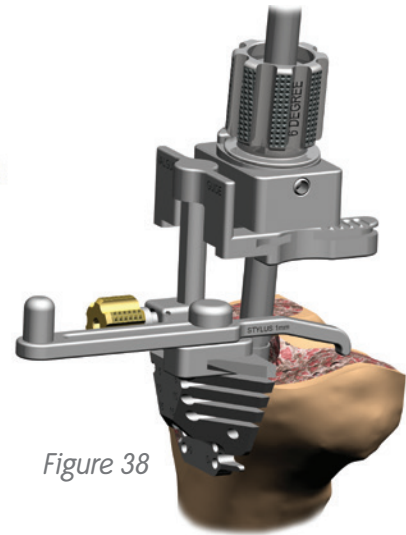

Figure 38
*Option: Attach the 1mm stylus to the distal cutting block by inserting the stylus foot into the distal slot and position the stylus tip on the least affected side (Figure 38).*